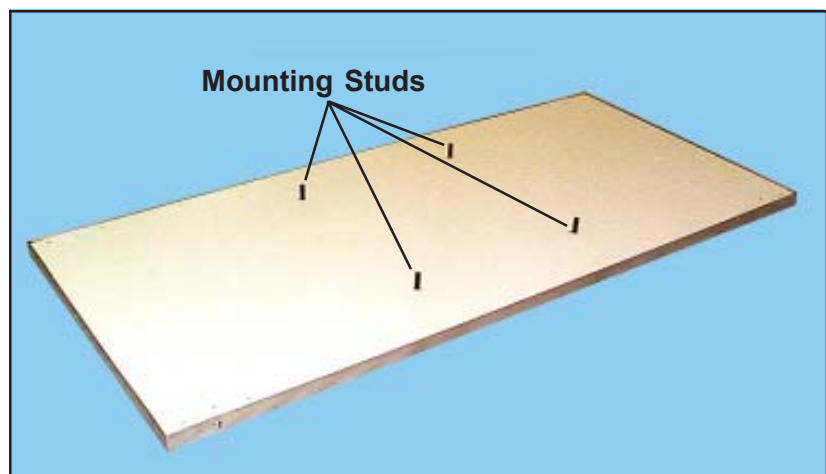

Figure 14. Underside of Exam Top Showing Studs
1. With a 1/2-in. wrench, remove the nuts and washers from the mounting studs under the exam top (Figure 14).
2. Place the exam top on the unit so that the mounting studs under the top enter the matching holes on the unit frame (Figures 14, 15, and 16).